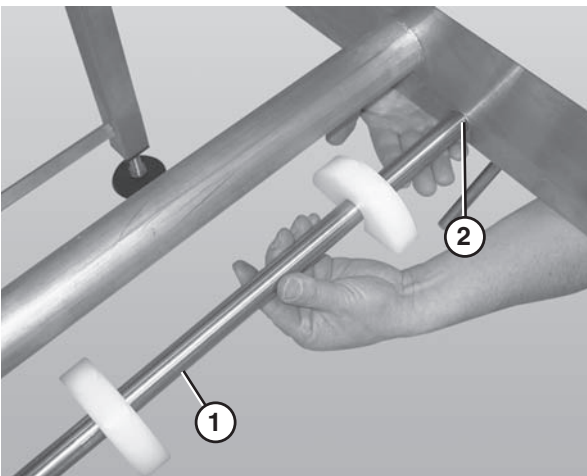

Figure 58
1. Remove the belt returns by pushing up on the return shaft (Figure 58, item 1) and sliding it through the large hole (Figure 58, item 2) in the frame.
2. Lower the opposite end of the return shaft (Figure 58, item 1) and slide it out of the frame.